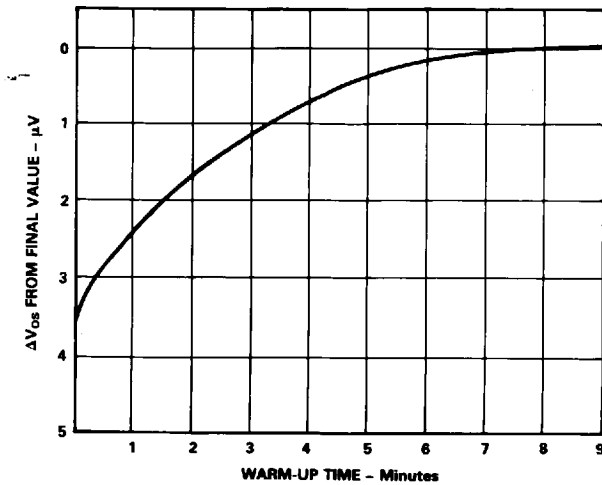

Figure 12. Offset Voltage, RTI, Turn-On Drift
**Turn On Drift:** The input offset of the 1B31 stabilizes to within 1 $\mu$ V of final value in 5 minutes (Figure 12). The test conditions are: 350 $\Omega$  bridge with +10V excitation and ambient temperature of +25°C.